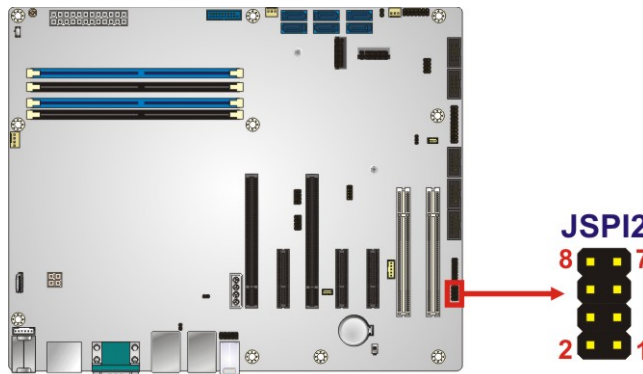

Figure 3-29: SPI EC Flash Connector Location
- CN Location:** See **Figure 3-29**